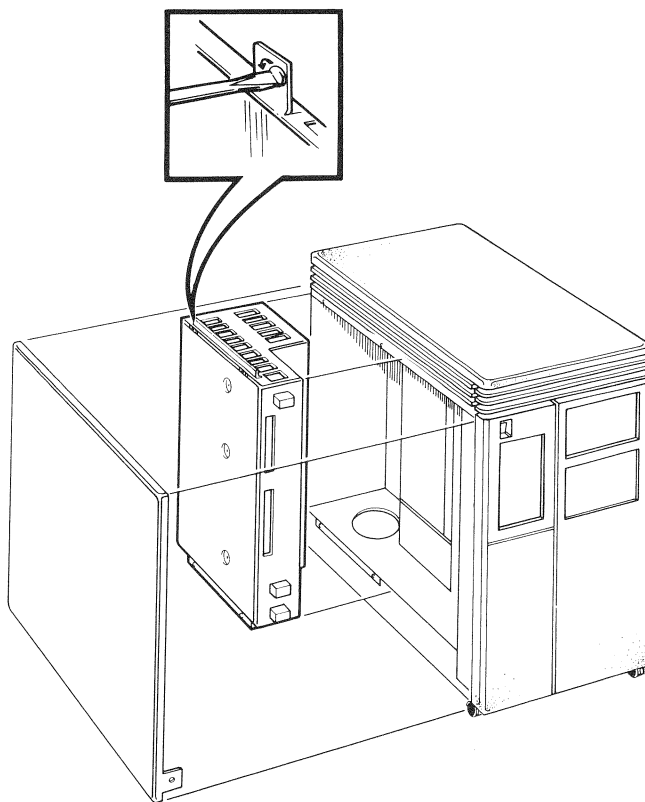

Figure 10-19 Power Supply Removal
3. Remove the four 1/4-turn fasteners holding the power supply to the enclosure frame and remove the power supply (Figure 10-19).